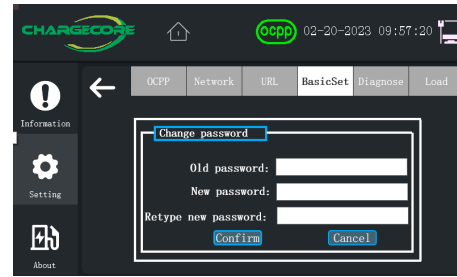

Figure 21 Change Password
- Enter the six-digit old password, new password, and confirm the new password (Figure 21), click "Confirm" and the modification is successful